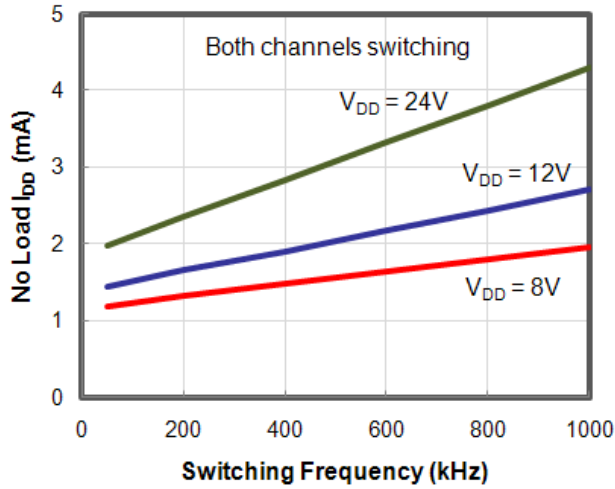

Figure 9.  $I_{DD}$  (No Load) vs. Frequency
**Dynamic Pre-drive / Shoot-through Current:** Power loss resulting from internal current consumption under dynamic operating conditions, including pin pull-up / pull-down resistors, can be obtained using the “IDD (No-Load) vs. Frequency” graphs in Figure 9 to determine the current IDYNAMIC drawn from VDD under actual operating conditions.